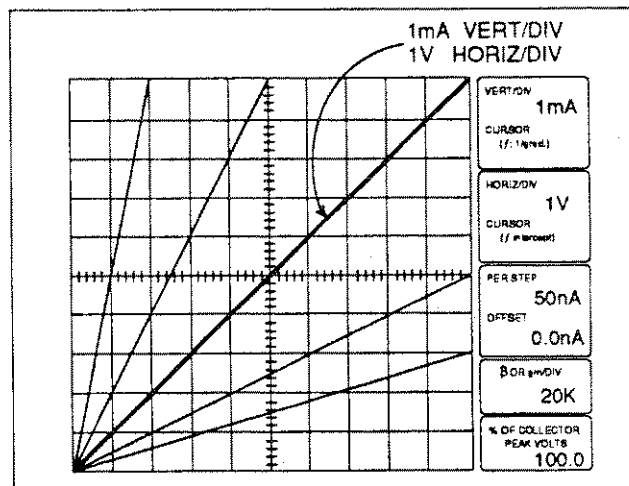

Figure 3-2. Display of I vs. E for 1 k resistor.
6. Rotate the VERTICAL control clockwise and note that as the vertical deflection factor decreases, the line slope increases (see Figure 3-2). Turn the VERTICAL control counterclockwise from the 1 mA position and note the decreasing slope. Also note that the VERT/DIV readout changes in accordance with the position of the VERTICAL control. Reset the VERTICAL control to 1 mA.
7. Rotate the HORIZONTAL control clockwise and note that as the horizontal deflection factor decreases, the line slope decreases (see Figure 3-2). Turn the HORIZONTAL control counterclockwise from the 1 V position and note the change in slope. Also note that the HORIZ/DIV readout changes as the HORIZONTAL control is rotated. Reset the HORIZONTAL control to 1 V.